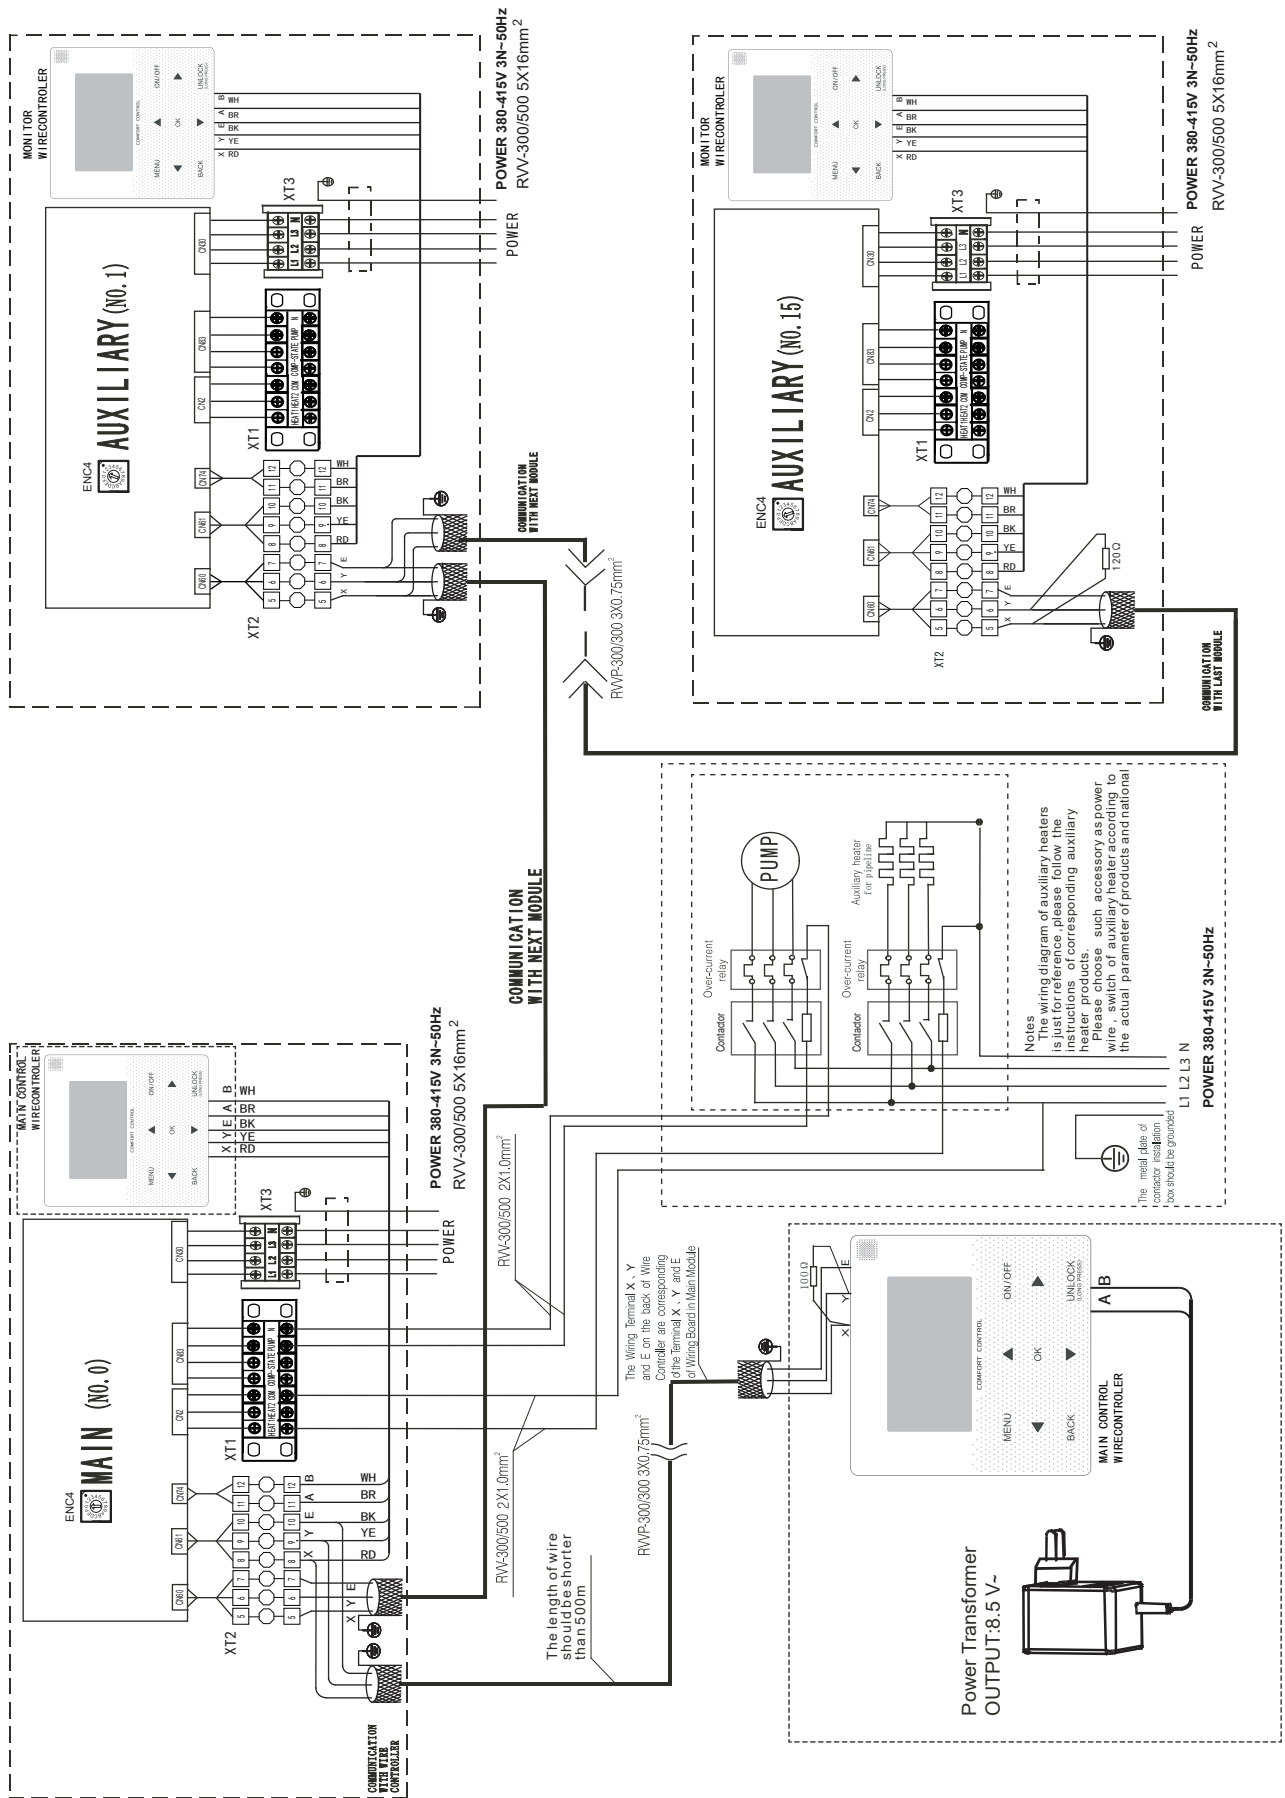

Fig. 8-23 Networking communication schematic of main unit and auxiliary unit for MC-SU60-RN8L
h) The by-pass pipes and by-pass valves as shown in Fig.8-23 must be mounted for the heat exchanger, to facilitate cleaning of the outside system of water passage before the unit is adjusted. During maintenance, the water passage of the heat exchanger can be cut off without disturbing other heat exchangers.